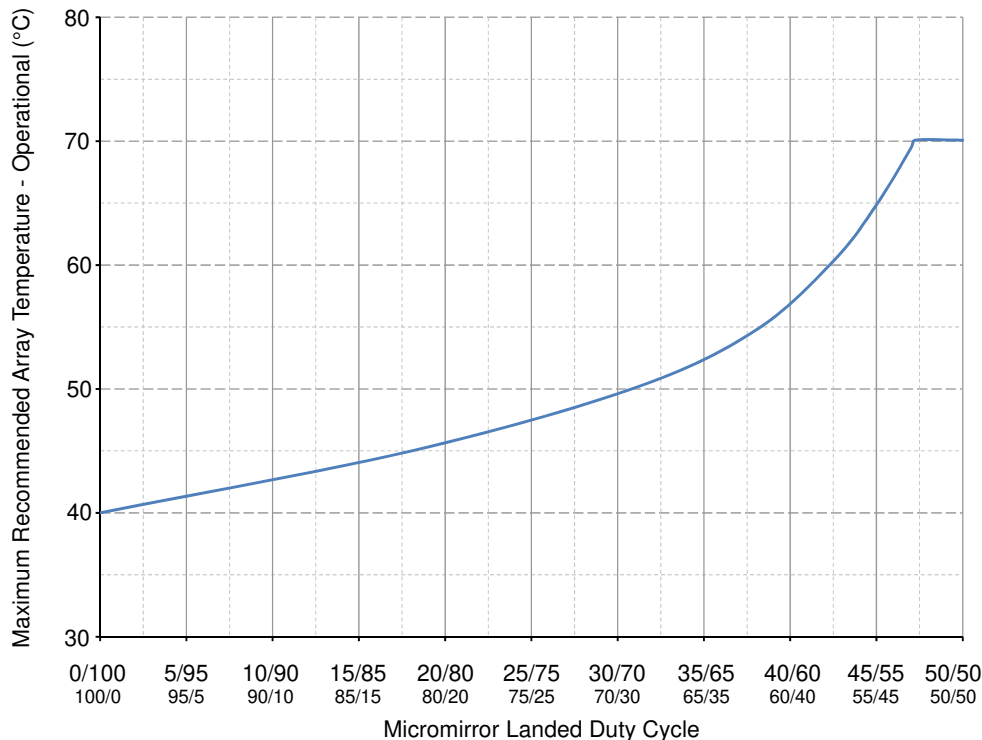

Figure 6-1. Maximum Recommended Array Temperature—Derating Curve
- (13) Per Figure 6-1, the maximum operational array temperature must be derated based on the micromirror landed duty cycle that the DMD experiences in the end application. See Section 7.7 for a definition of micromirror landed duty cycle.
- (14) Long-term is defined as the usable life of the device.
- (15) Array temperatures beyond those specified as long-term are recommended for short-term conditions only (power-up). Short-term is defined as cumulative time over the usable life of the device and is less than 500 hours.